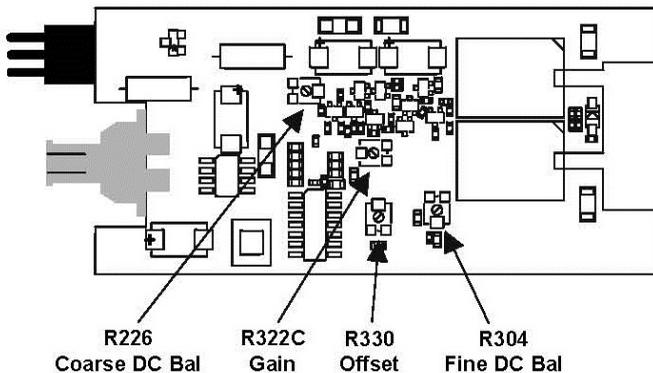

Figure 11, Amplifier Board Adjustment Locations
5. Adjust **Coarse DC Bal** (R226) on the amplifier board for an output voltage of 0 mV -10 mV. (See Figure 11 for location.)
- Adjust **Offset** (R330) to bring the trace back to exactly center screen. (See Figure 11.)
- Adjust **GAIN** (R322C) so that the DMM reading is within ± 1 mV (0.5%) of the reading recorded in step F-6. (See Figure 11.)